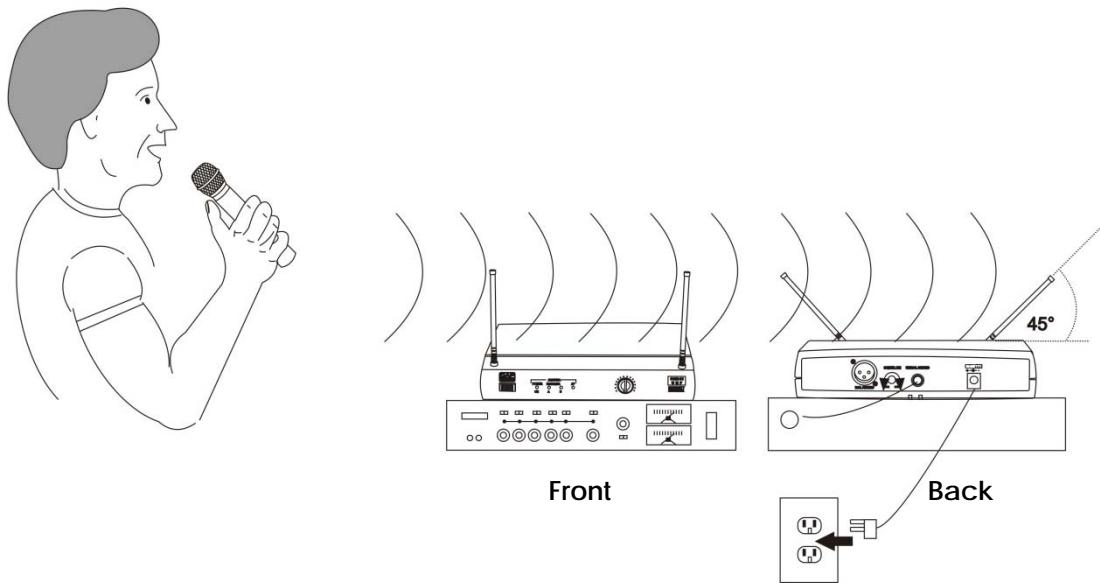

Fig. 4
1. Refer to Figure 4. Connect the supplied power AC adapter into the **DC input Connector (16)** at the back of the receiver. Plug the afdapter in a wall socket or other AC power source. Push the **POWER switch (1)** on the front of the receiver, the red power LED will light.
3. Connect the receiver's **XLR AUDIO OUTPUT (8)** to the mixer input using a XLR to XLR audio cable or connect the receiver's **1/4" JACK OUTPUT CONNECTOR (10)** to your amplifiers input using a **1/4"phone plug cable**.
4. Slide the transmitter **POWER/OFF switch (12)** to the power position. The indicator will light for a moment and the receivers **A/B LED's (3)** will light.
5. Talk or sing into the microphone. The **AF (4)** LED's intensity will light in relation tothe volume of the transmitter.
6. Adjust the receiver **VOLUME control (5)** and the volume adjustement of the connected mixer or amplifier to a suitable level.
7. If the performance is over, turn off the sound system and slide the transmitter's **POWER/OFF switch (12)** to the off position to conserve battery power.